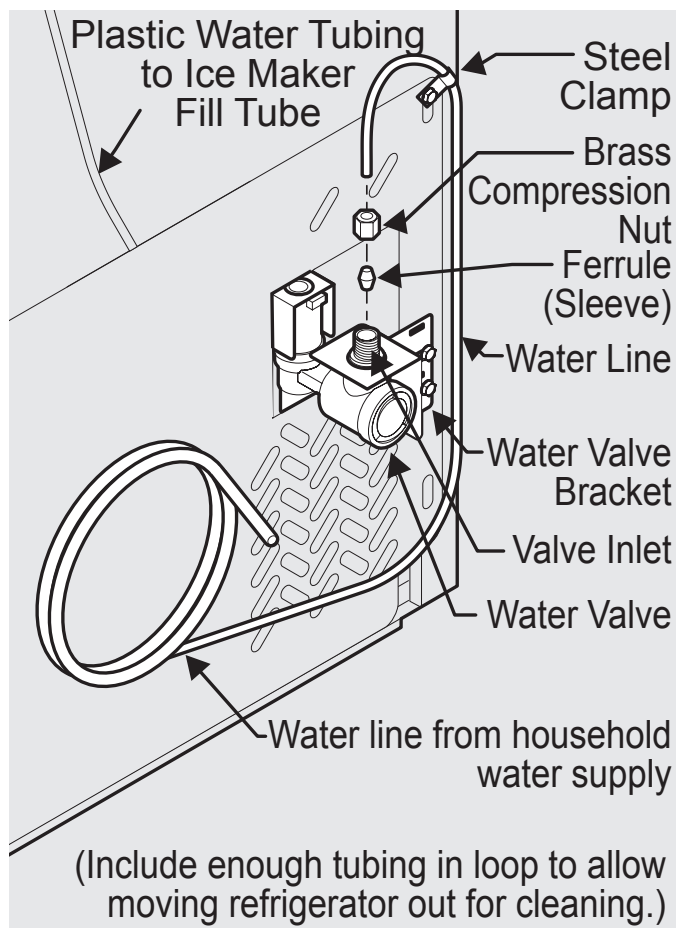

Figure 1
- 4 **If you use copper tubing** - Slide brass compression nut, then ferrule (sleeve) onto water supply line. Push water supply line into water valve inlet as far as it will go ( $\frac{1}{4}$  inch/6.4 mm). Slide ferrule (sleeve) into valve inlet and finger tighten compression nut onto valve. Tighten another half turn with a wrench; DO NOT over tighten. See Figure 1.
**If you use stainless steel tubing** - The nut and ferrule are already assembled on the tubing. Slide compression nut onto valve inlet and finger tighten compression nut onto valve. Tighten another half turn with a wrench; DO NOT over tighten. See Figure 1.